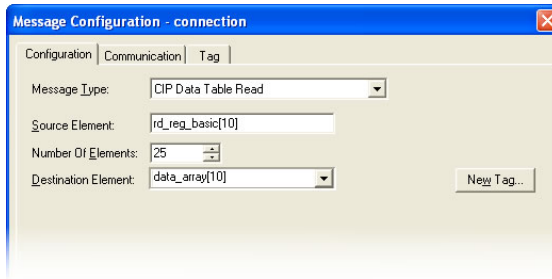

Figure 98: MSG Instruction Configuration
- b) Click the message configuration button (“...”) in the MSG instruction. The “Message Configuration” window will open. Refer to Figure 98.